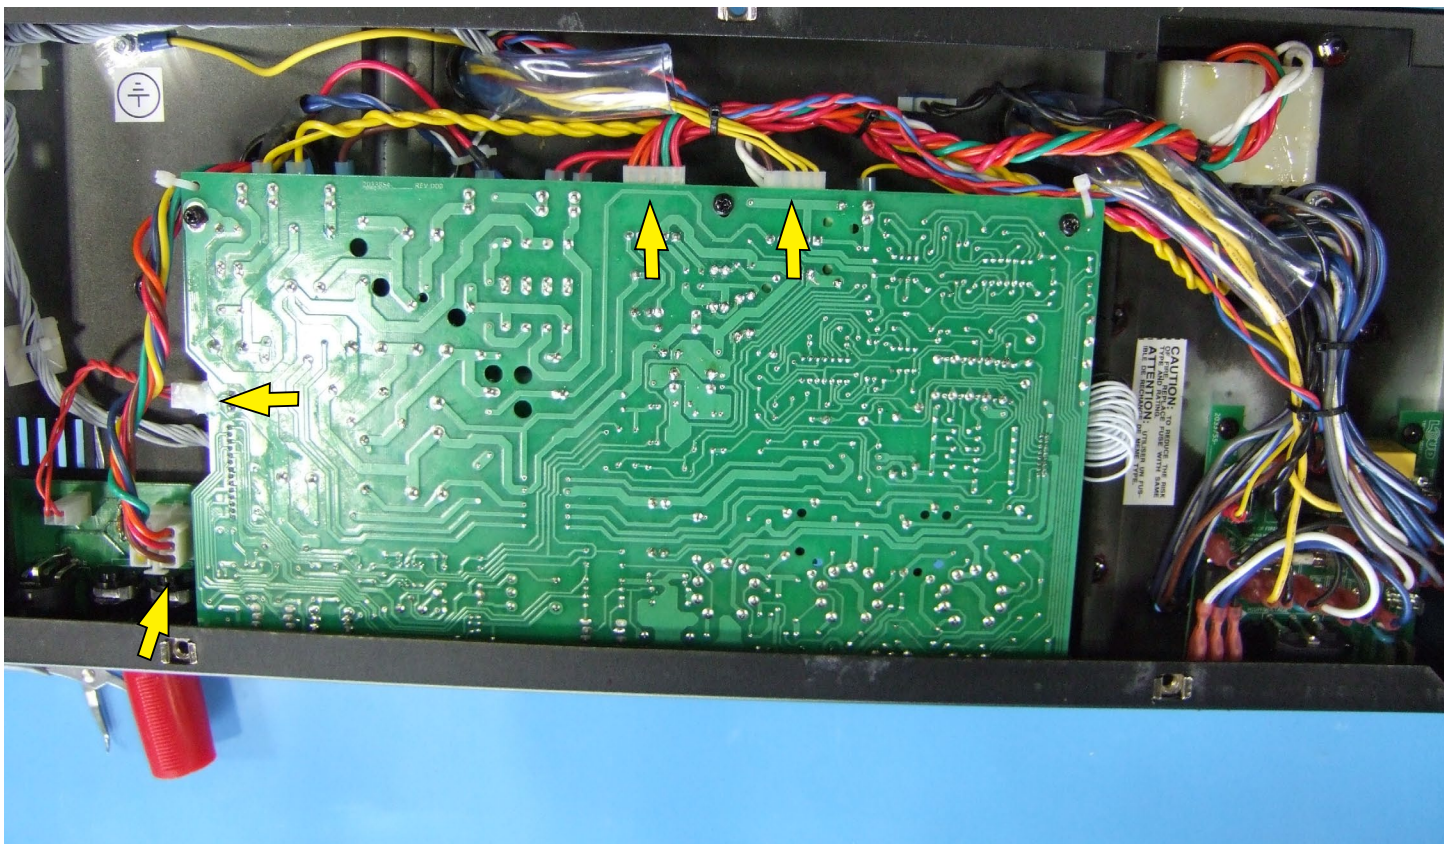

Figure 11a
11. Now disconnect the connections for the Preamp, Speaker and Filament Transformer. See Figure 11a.